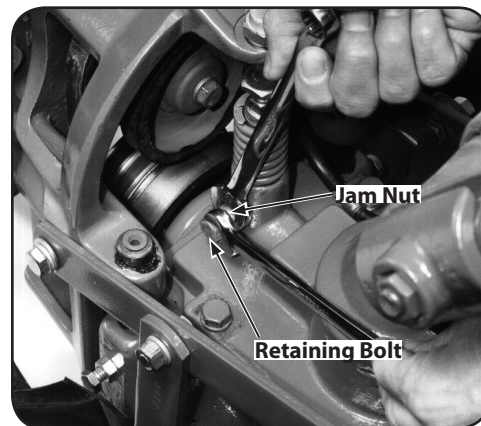

Figure 5-22
2. On the left side of the tiller, put a $\frac{1}{2}$ " wrench on the plunger retaining bolt and another $\frac{1}{2}$ " wrench on the jam nut next to it. See Figure 5-22.
9. Hold the plunger retaining bolt steady with a wrench while tightening the jam nut against the side of the plunger housing. See Figure 5-22.